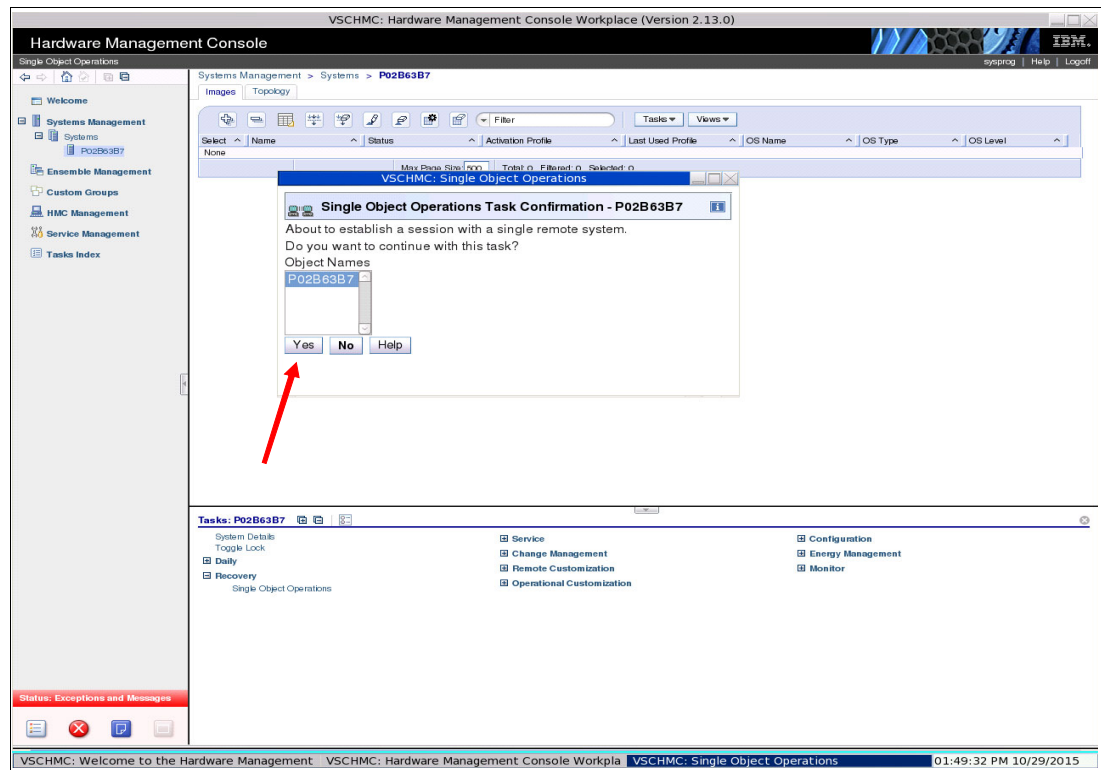

Figure 4-14 Single Object Operations confirmation window
4. A confirmation window opens, as shown in Figure 4-14. We select **Yes**.